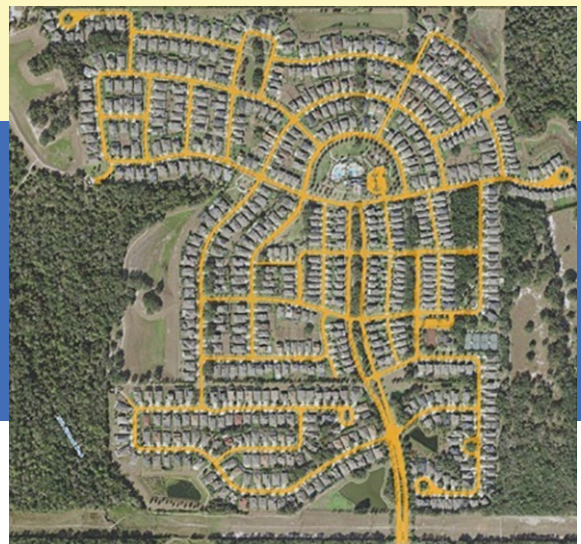

Figure 5: Map showing impervious road surface feature as extracted from the high-density lidar.
To test the effectiveness of using the lidar intensity imagery to extract the curb-to-curb pavement in a new subdivision, the Hillsborough County Geospatial Services Department conducted an experiment. The best compilers and analysts were given a recent aerial image in RGB format and instructed to compile the street map. A second analyst was given the intensity imagery for the same new subdivision and instructed to use Esri Image Analyst tools to extract the road network. Both sets of analysts were timed, as a measure of effort, and the results analyzed for spatial accuracy as judged by a third reviewer. Total impervious surface area was reported. The results indicated (1) no difference in the centerline configuration (**Figure 4**), (2) less than 3% difference in total length, (3) between 6 and 8% difference (cul-de-sacs and other variables) in total impervious surface (**Figure 5**), and (4) a more than 50% increase in efficiency using lidar intensity to map the new subdivision.